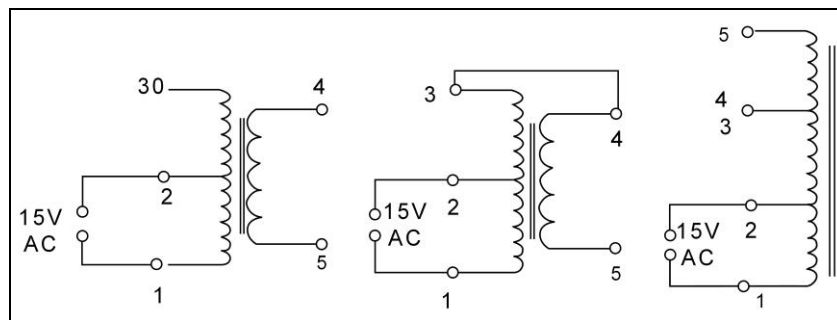

Fig. 1-6 Auto-Transformer
34. Connect pins 1 and 2 of the transformer across the 15 VAC source terminals, as shown in Fig. 1-6(a). Leave pins 3, 4, and 5 open. If we ignore the winding between pins 4 and 5, the remaining winding can be thought of as an autotransformer.
37. The unused winding between pins 4 and 5 can be included in the makeshift auto-transformer. Connect pins 3 and 4 of the transformer, as shown in Fig. 1-6(b).